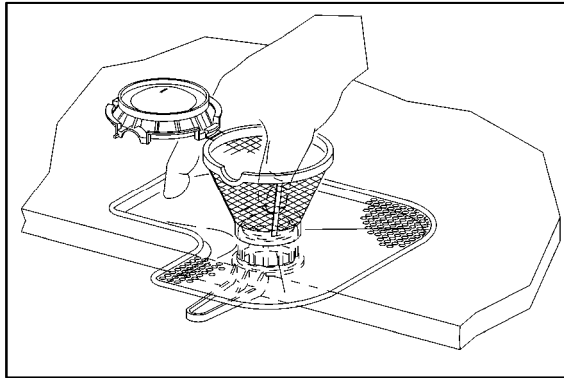

Figure 5-22: Pressing and Locking the Filter Assembly.
7. Apply pressure with both thumbs inside the Microfine Filter and press it onto the Handle (Figure 5-22), so that the parts lock together.